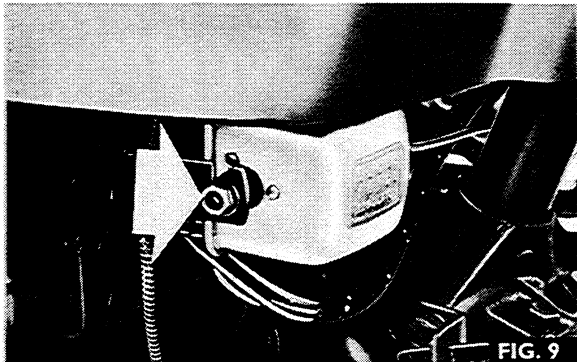

FIG. 9
2. Fig. 9. Disconnect the wire from the terminals.